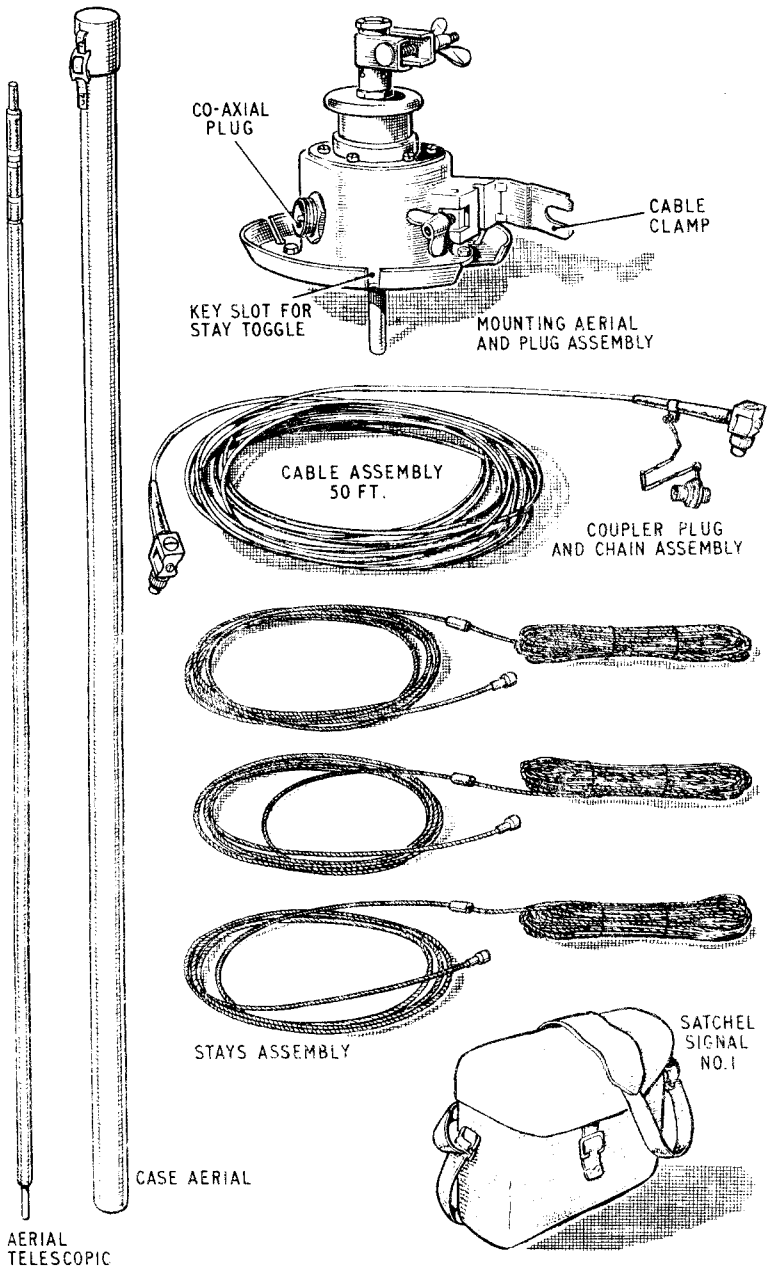

FIG. 2. COMPONENTS.
- 2.2 The complete kit of the Elevated Aerial, 23 to 38 Mc/s consists of the following separate items (see Fig. 2).